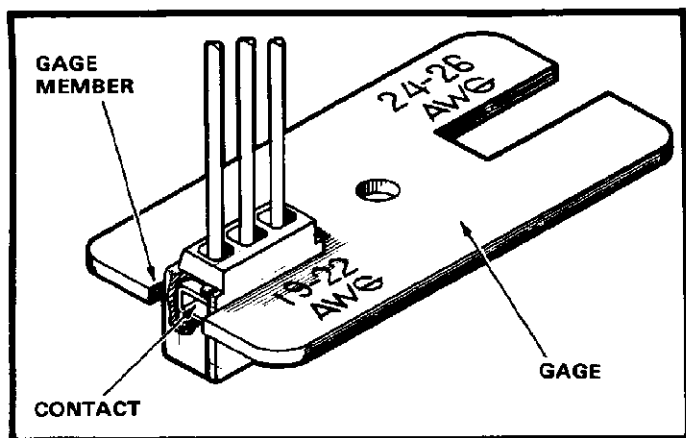

Fig. 5
2. Check each connector by placing connector in gage so contact is aligned with gage members as shown in Figure 5.